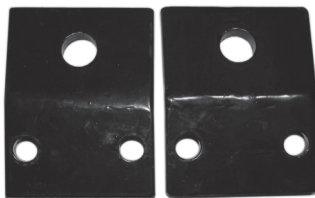

fig.6
5. Attach the two skid shoe holders (fig.6) to the bottom of the lower cross rib on the back of the plow blade. They should be attached so that they are cupped upwards, the ends of the holders with the two holes angled slightly when the blade stands vertically and the end having the single large hole aligned horizontally so that the shoes are vertical. To attach each, use 2 M12 x 35 mm gr.8.8 hex head bolts inserted from below, and 2 M12 Nylock nuts threaded on from the top to attach it to the cross rib.